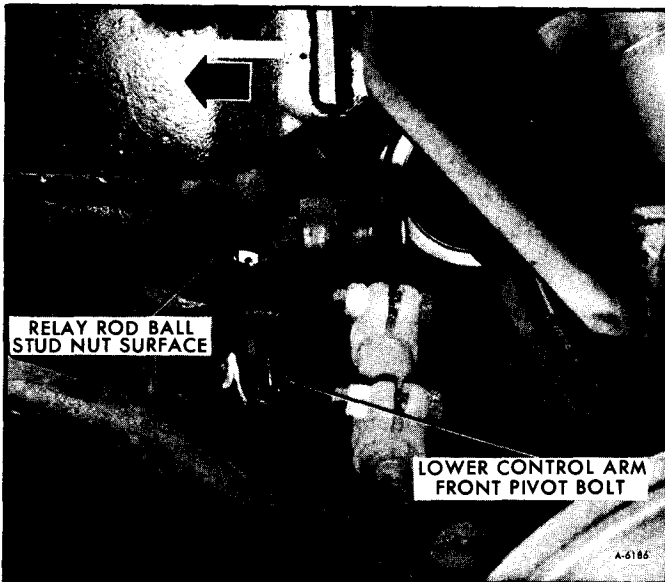

Figure 2—Measuring Relay Rod Levelness
- b. Record the following measurements: (Refer to figure 2)